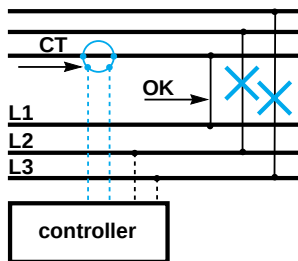

Fig. 13
■ For a CT to be installed (fig. 13 and 14) :